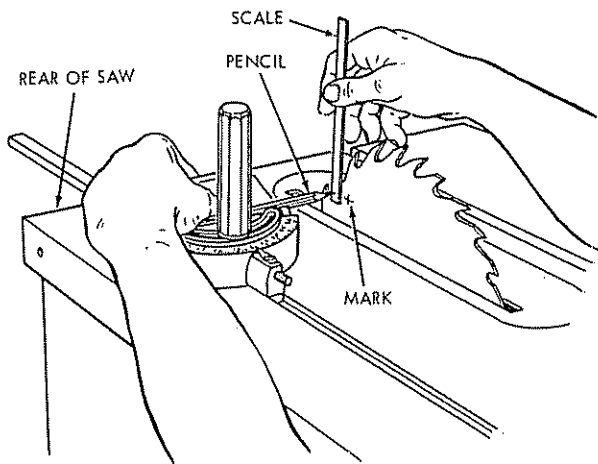
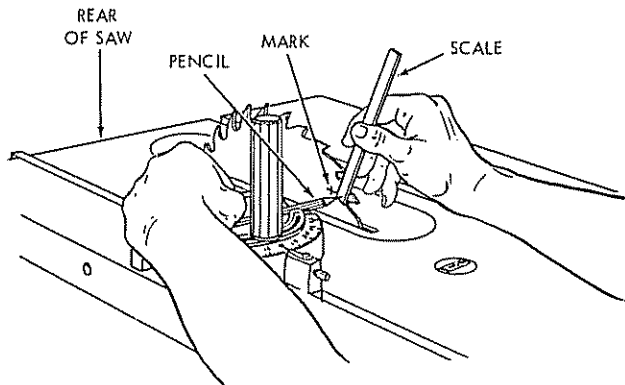

Figure 16
Figure 17
- (1) Check elevation and tilt hand-wheels to make sure each is rotated fully clockwise — to position saw blade for deepest cut and square with table top.
- (2) Make a mark at base of one saw tooth at rear of blade just above table surface. (See figure 16.) Select a tooth that is "set" toward the right-hand side of saw.
- (3) Place the miter gauge in table groove at left of saw blade. See that miter gauge is at "0".
- (4) Lay a pencil, or similar pointed tool, in the depression just ahead of miter gauge scale, with pencil point toward the blade and hold pencil in the depression with thumb of left hand as shown. (See figure 16.)
- (5) Slide the miter gauge to a position which will point the pencil at the marked saw tooth. Hold a small scale against the marked tooth and slide the pencil toward the saw until the point rests against the scale. With the left thumb, hold the pencil securely in miter gauge head. **It must not move.**
- (6) With the right hand, remove the scale and rotate the saw blade until the marked tooth is just above the saw table at the front. (See figure 17.)
- (7) Slide the miter gauge toward the front of saw table until the pencil is pointing toward the marked tooth. Insert the scale between pencil point and blade, as shown in figure 17. If the saw is parallel to table groove, the scale will just slide into the gap between the pencil point and blade. If the scale will not enter, or is loose in the check shown in figure 17, an adjustment of the table trunnions is required.